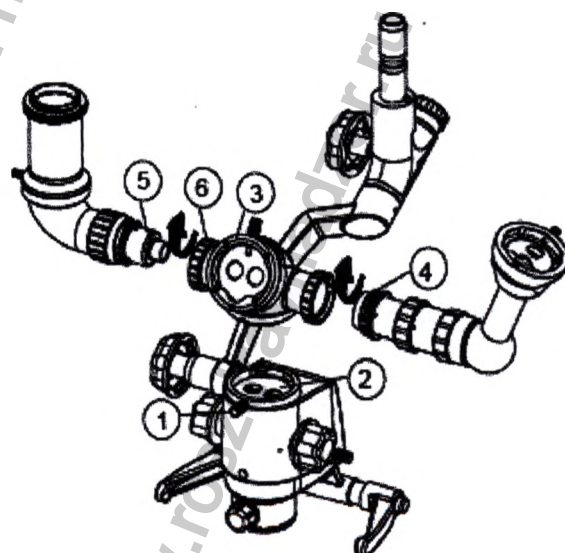

Fig. 29
13.8 Installation of beam splitter with observation bridge for the assistant with inclined head and DSLR camera (fig.29)